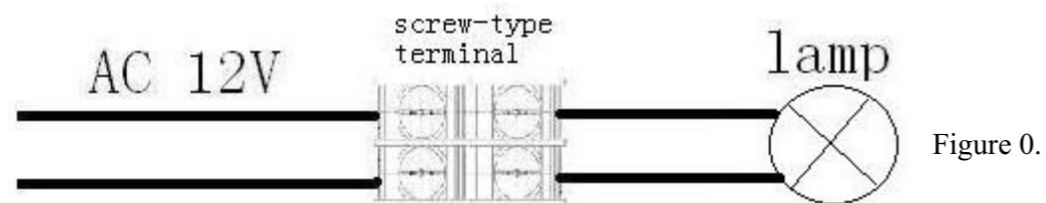

Figure 0.
- c. Terminal blocks must meet the IEC60988-2-1 standard having the rated connecting capacity of 1.5mm² use of screw-type terminal at least 25A rated current, mounted on junction boxes inside. See Figure 0